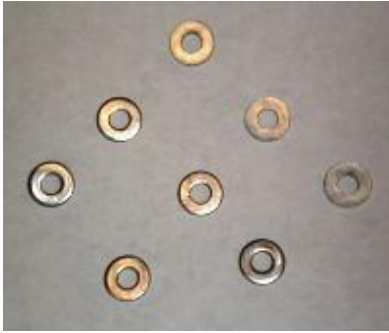

Figure 20A
54. Each kit comes with an assortment of flat washers that may be added to assure proper alignment of the **RAILS** (Figure 20A).